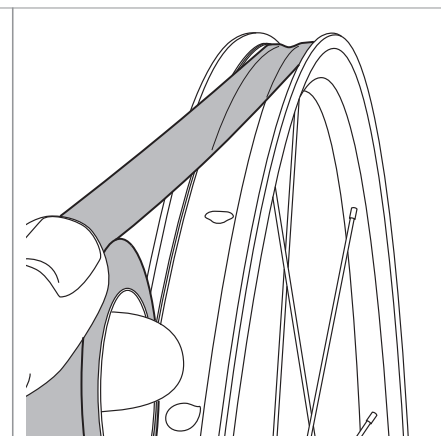

Fig.5
- Gradually unroll the tape, applying it around the circumference of the rim. Keep the tape taut and press it into the centre well, ensuring it is properly centred between the inner walls of the rim (Fig. 5).